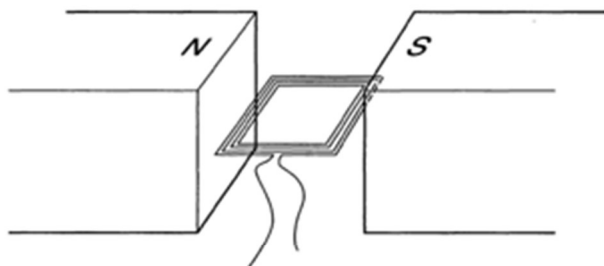

Fig. 6.5
- 3 (c) Fig. 6.5 shows a simple alternating current generator, consisting of a coil of 500 turns rotating at a constant frequency of 50 Hz in a uniform magnetic flux density $5.0 \times 10^{-2} \text{ T}$. The coil has an area of $2.5 \times 10^{-2} \text{ m}^2$.